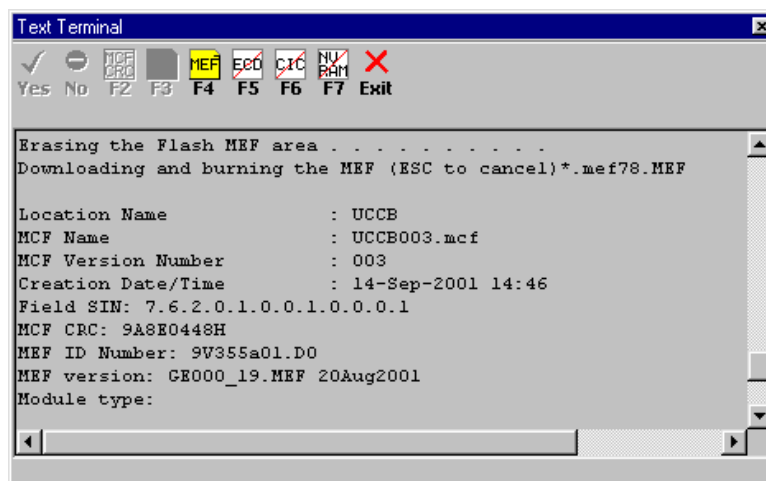

Figure 3-25
7. The Text Terminal screen displays “Erasing the Flash MEF area...” followed by “Downloading and burning the MEF (ESC to cancel)”, and refreshes the screen with the current configuration data (figure 3-25) (note that the F2 and F3 Function Keys are disabled for the GDT).